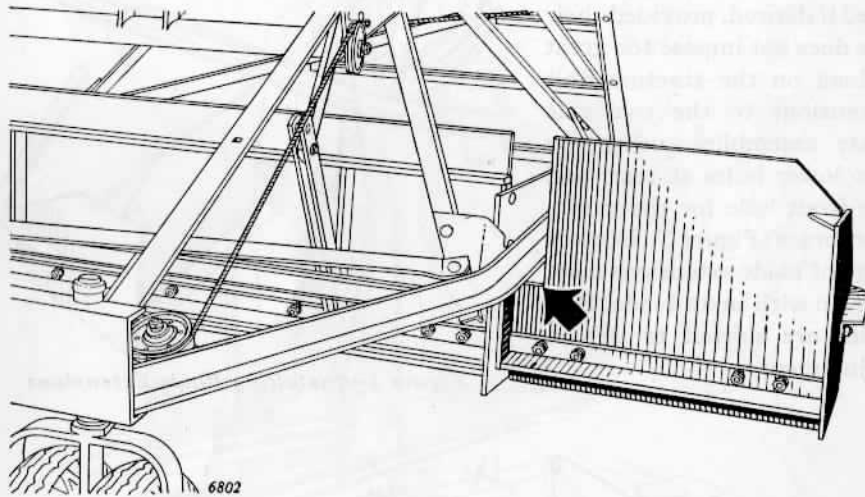

Figure 5—Point of Adjustment between Blade Extension and Lower Frame Angle
- (1) Lower the shaping blade to its full down position.
- (2) Now, by hydraulic power, raise the blade until blade extension is 3/4- to 1-inch from the lower frame angle (Figure 5). Stop blade and adjust the piston stroke stop of the Powr-Trol unit so it stops the stroke at this point.